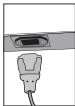

Figure B.1
3. Connect the cables to the appropriate connector on the back of the monitor (**Figure B.1**)
4. Connect one end of the power cord to the LCD and the other end to the power outlet. Place the video signal cable, power cord and DVI cable into the cable holder (**Figure B.1**).